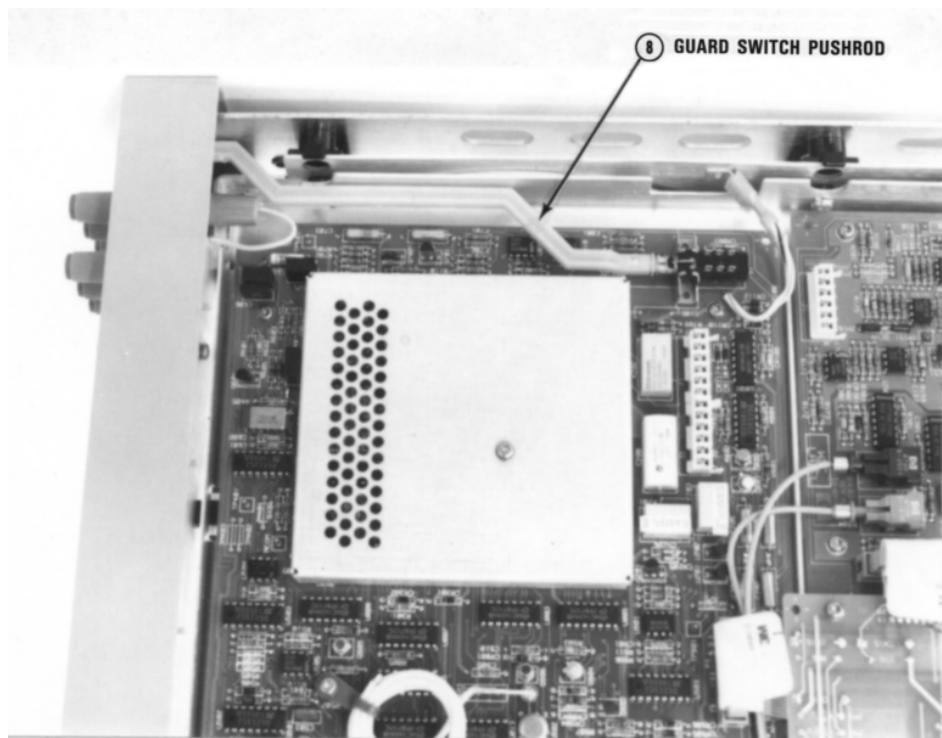

Figure C-6 Guard switch and pushrod location
- 2 Refer to Figure C-6, Locate the pushrod for the Guard switch. Pull the pushrod off. You may need to pry the pushrod loose with a small flat blade screwdriver. Set the switch in the position it is to be used.